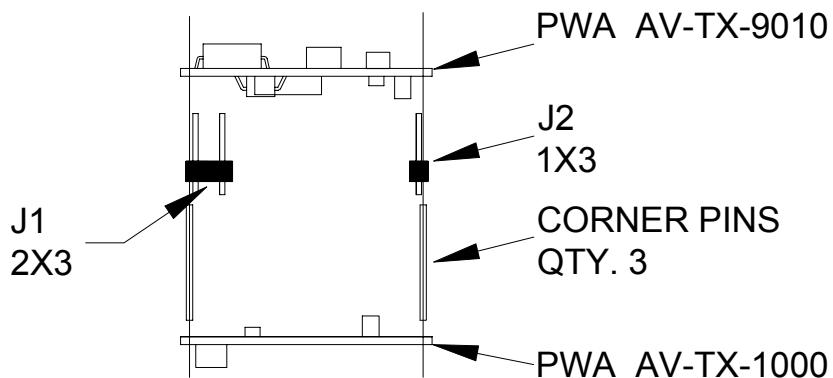

Figure 3
7.3.1 Stack the two PWA's using pins at J1, J2, and 3 corner pins. See figure 3